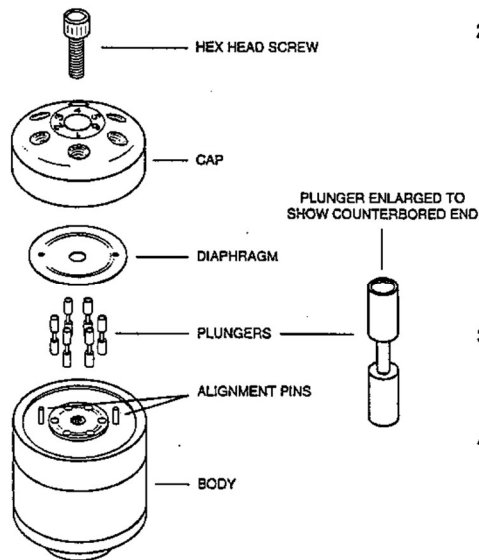

Figure 2:
2. With a 9/64" hex wrench, remove the hex head screw from the center of the valve cap (refer to Figure 2), and lift the cap from the two alignment pins. Set the cap aside, with the polished side up so that it doesn't get scratched.
2. Examine the new plungers. Note that one end has a counterbore and the other end is flat. (Figure 2) Place the plungers in the holes with the counterbored end up (toward the diaphragm).